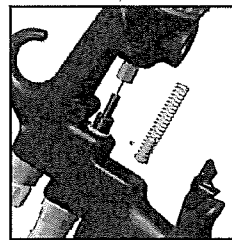

Fig. 29
4. Remove spring with spring pad. (See fig 29)
9. Insert new spring, ensuring the end with the plastic bearing pad goes in first. (See fig 29)